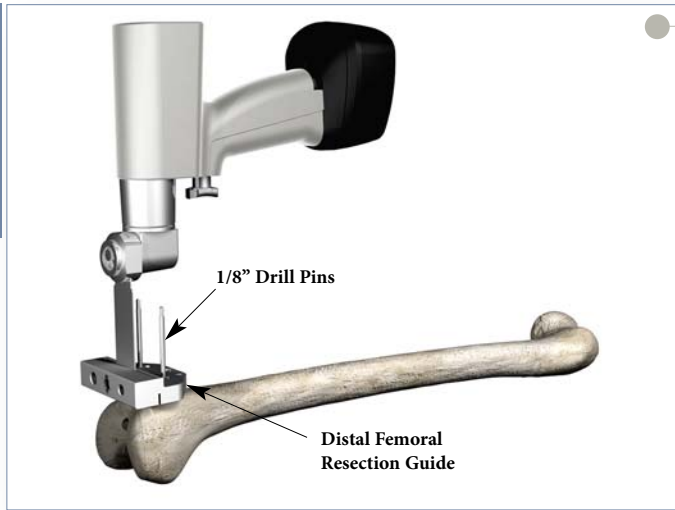

Figure 10
- ▶ Once the resection level is determined, make the distal femoral resection (Figure 10).